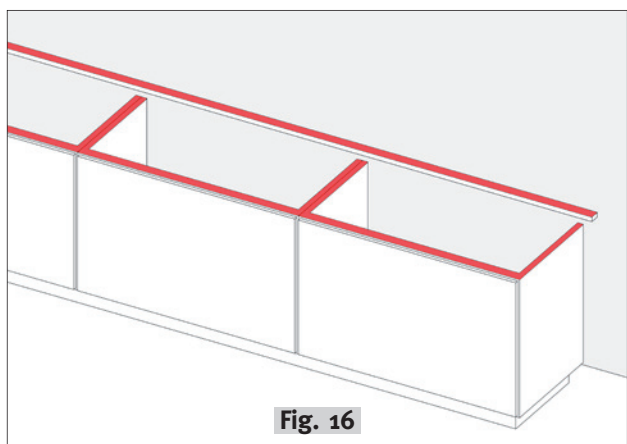

Fig. 16
- 4c. The worktop should have full support on the left, right, front and back side of the PITT cooking unit (**fig. 16**). This prevents tension in the worktop from the weight of the cooking unit. We advise to support the worktop with a ladder frame.